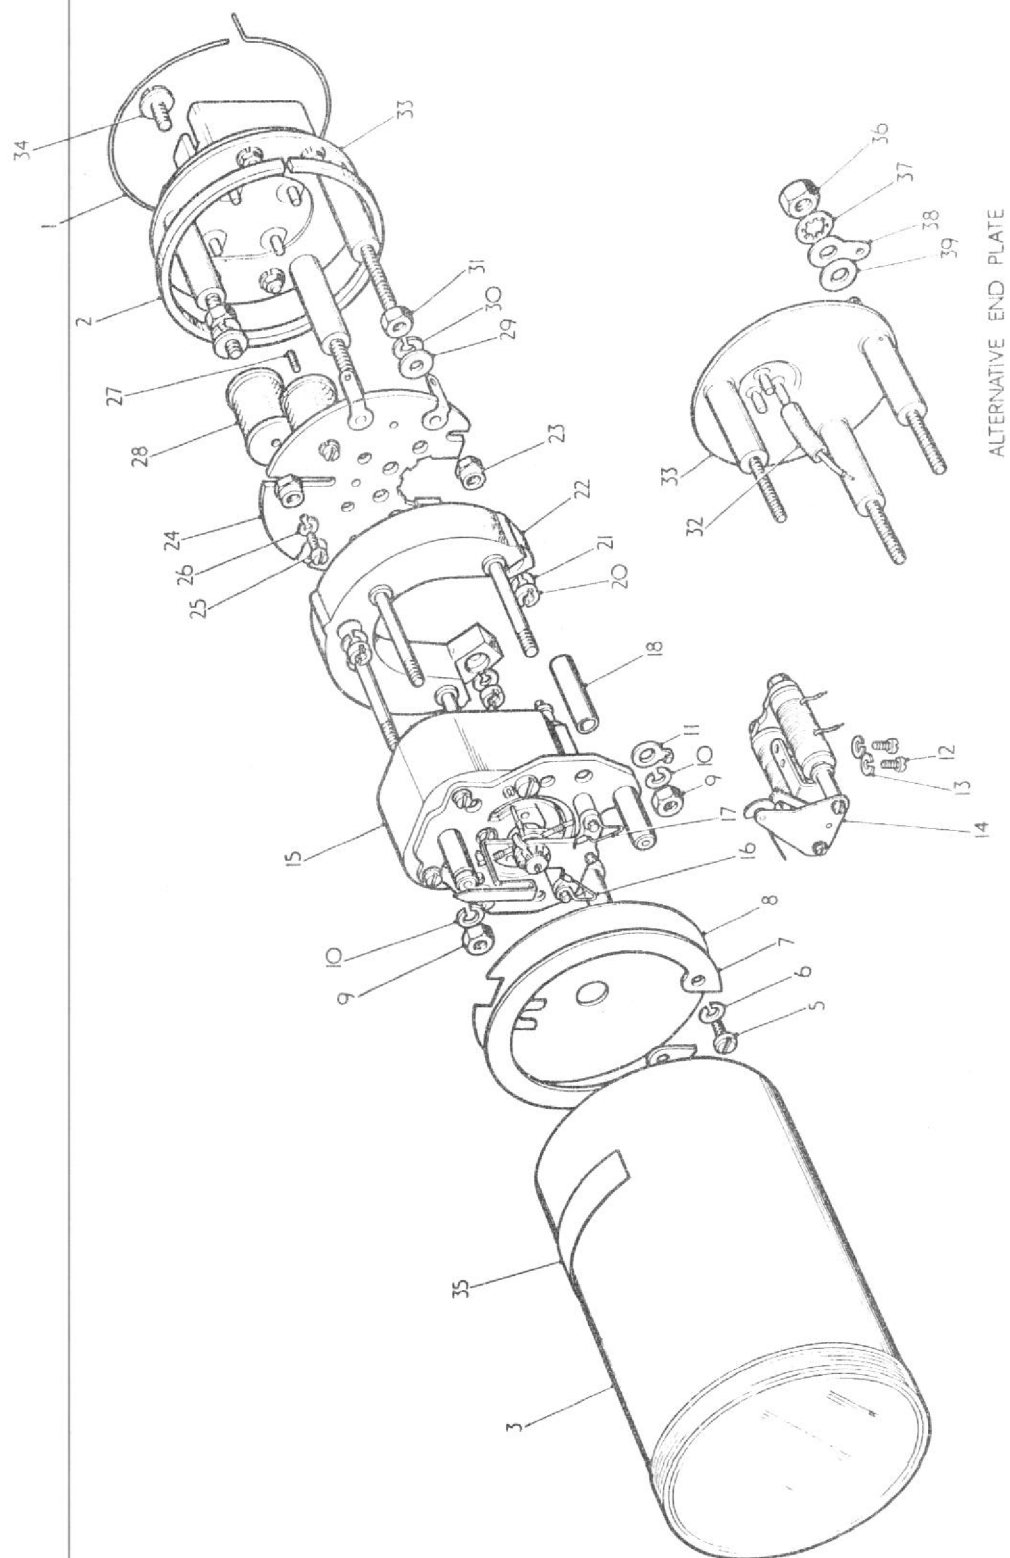

Fig.1. S.149 Form 1, Exploded view of indicator
B. Detail (Refer to Fig.1.)
KEY TO FIG. 1.
5. Repair (Refer to Fig.1).
A. Movement complete (15)
A. Procedure (Refer to Fig.1)
- (1) Fit nuts (31), lockwashers (30) and washers 29 (3 off - each item) to the pillars on the end plate (33).
- (2) Place the spool mounting plate (24) in position on the pillars and solder the wires to their respective pins on the end plate.
- (4)
- (a) Fit the special nuts 23 (3 off), moulded ring (22), lockwashers 21 (3 off) and round nuts 20 (3 off) to the end plate mounting pillars.
- (c) Adjust nuts 31 (3 off) to bring the spool mounting plate (24) hard against the special nuts (23).
- (5) Fit the spacers 18 (4 off) to the pillars on the moulded ring (22).
- (6) Check that the moving coil of the movement (15) is centred and turn the jewel screws clockwise in increments of approx. 1/10th of a turn until 'pointer flop' (the movement of the pointer due to the pivots being able to move laterally between the jewels) is just eliminated. Back-off the jewel screws by 1/10th to 1/8th of a turn until slight 'pointer flop' is just perceptible. Apply Red Thermolene Lacquer to the threads of the jewelled bearings.
- (7) Place the movement complete (15) on the pillars of the moulded ring (22) and solder the wires to the appropriate ligament terminals.